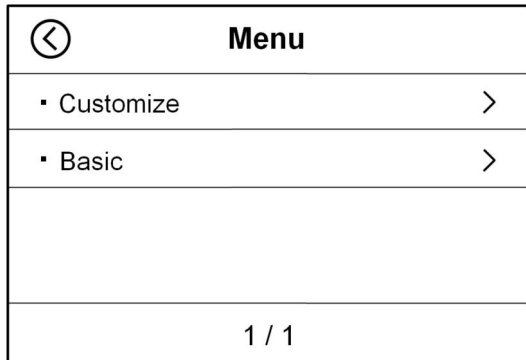
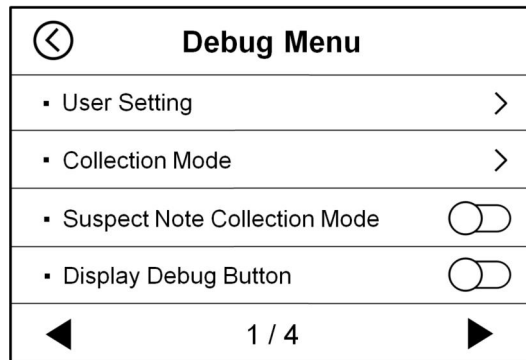
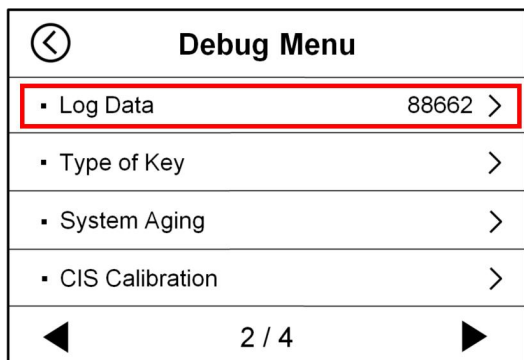
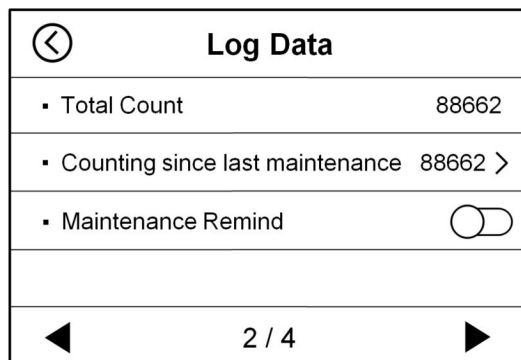

Figure 39
Figure 69
Figure 70
Figure 71
1) Press the “” key once to enter the MENU main interface, as shown in Figure 39 below. Press the “” key twice again to enter the Debug Menu interface, as shown in Figure 69 below:
2) Touch the “▶” button at the lower right corner of the interface in Figure 69 to move to the second page, as shown in Figure 70 below. Tap “**Log Data**” to enter the coin history information interface, as shown in Figure 71: